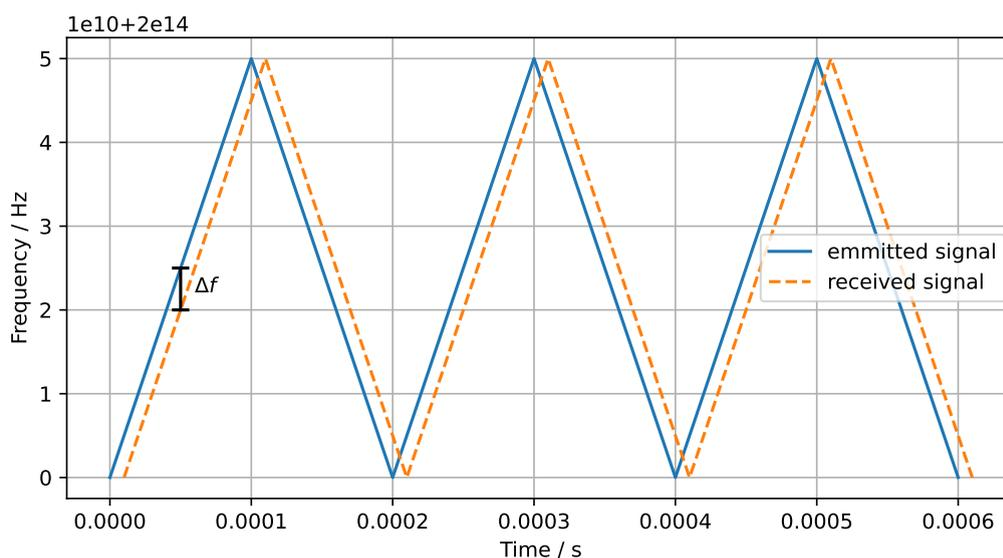

Figure 2: Emitted and receives LiDAR signal.
- In Figure 2 the emitted and received signal frequency of a *Frequency Modulation (FM) Light Detection and Ranging (LiDAR)* sensor is depicted. An object O_1 is placed in front of the sensor, the object is not moving.